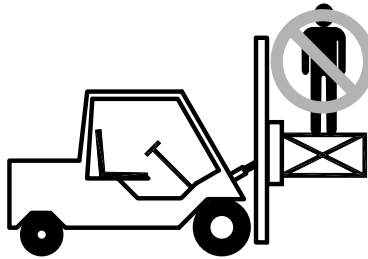

Figure 2-1,
- Never stand on top of material being raised, lowered, or transported. (Figure 2-1)